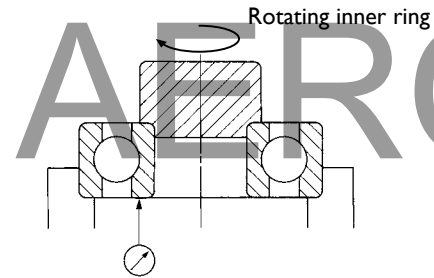

Figure 2-9
- Axial Runout of Inner Ring (S_{ia}) Figure 2-9